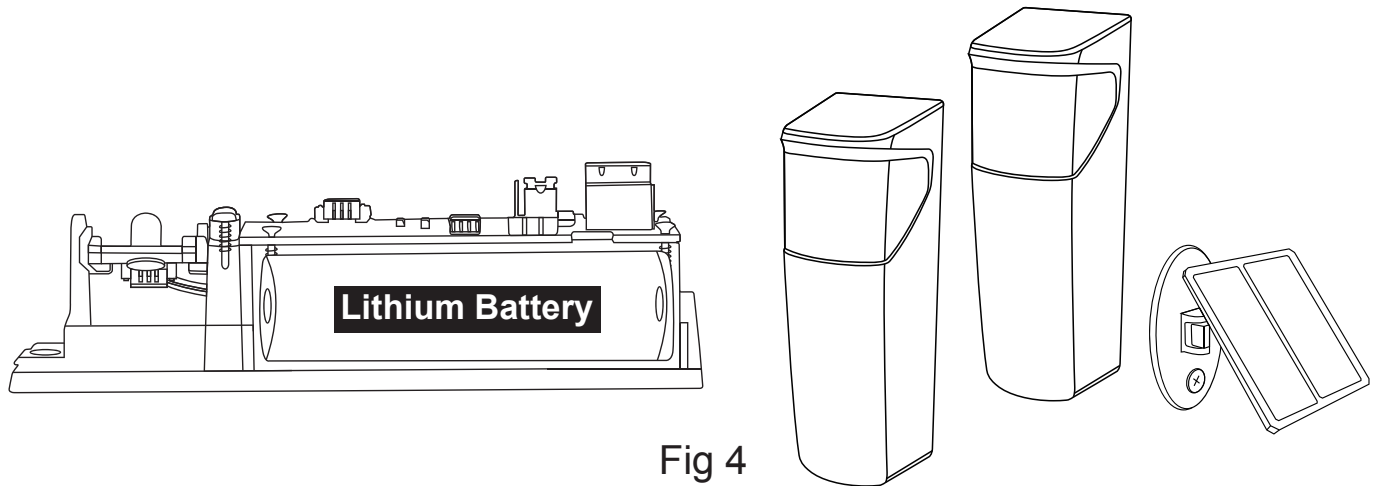

Fig 4
- 1 Infrared transmitter, orientable 220 degree, powered with rechargeable, built in battery 3.2V. Refer to Fig 4.